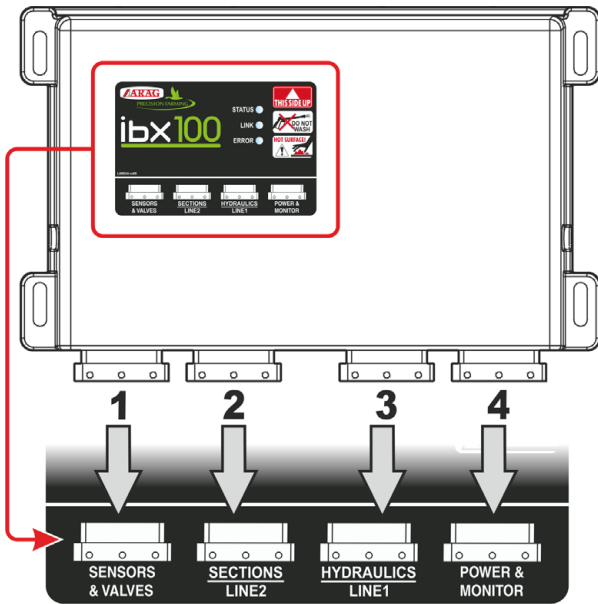

Fig. 6
**WARNING: DO NOT CONNECT THE ISOBUS CONNECTOR (Fig. 6 on page 9). IT MUST BE CONNECTED ONLY AFTER INSTALLING ALL COMPONENTS (Chap. 7 ISOBUS system cable connection).**